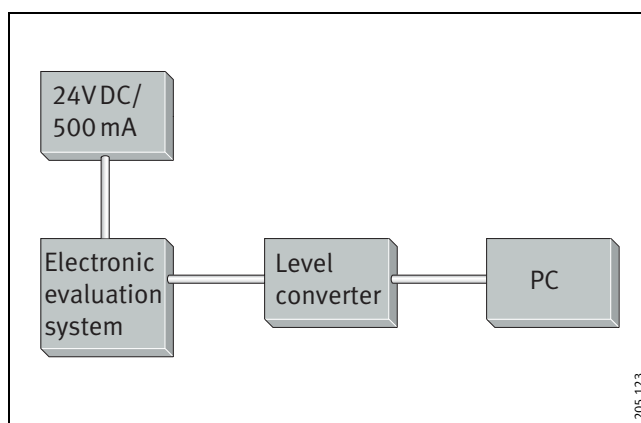

Figure 20 • Block diagram for programming
- connect the components in accordance with Figure 20